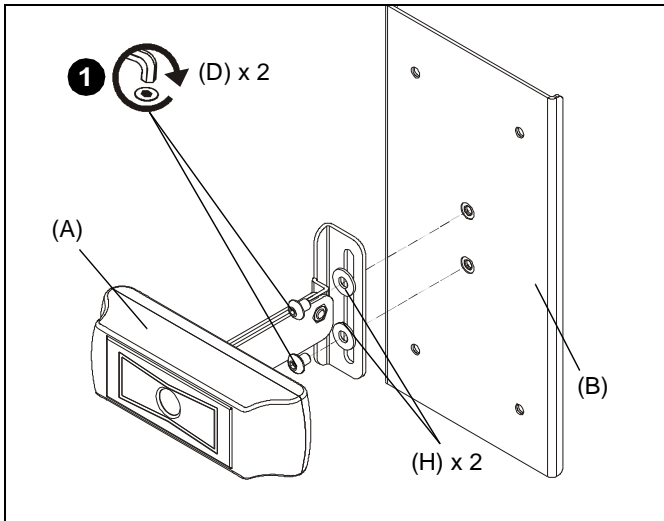

Figure 1
1. Attach FCA820V/VE camera mount (A) to center plate (B) using two #10-32 x 1/4" button head cap screws (D) and two #10 washers (H). (See Figure 1)